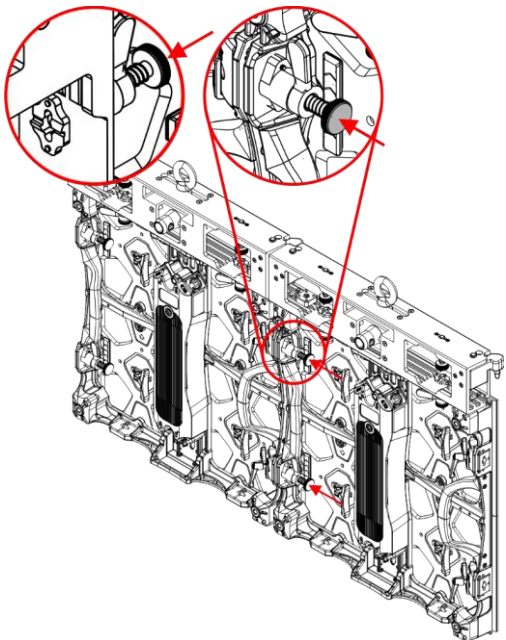

Fig. 46
- 01) Turn **lever (A)** of the top **locking mechanism (16)** counterclockwise.
- 02) Push the **spring-loaded fast-lock (B)** of the top **locking mechanism (16)** of the second LED screen and turn it by 90° clockwise or counterclockwise, as shown in Fig. 46 and 47.